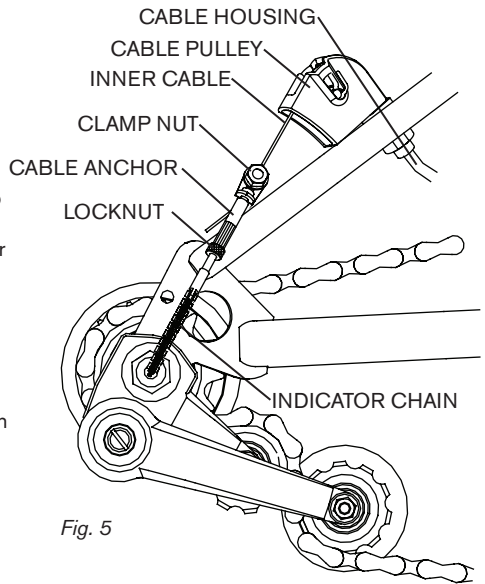

Fig. 5
- Thread the inner cable around the cable pulley (fig. 5)
Adjustment is carried out by slackening the lock nut, turning the cable anchor barrel (fig. 5) to obtain correct setting, and relocking the nut.
- Unscrew the indicator chain locknut (fig. 5)